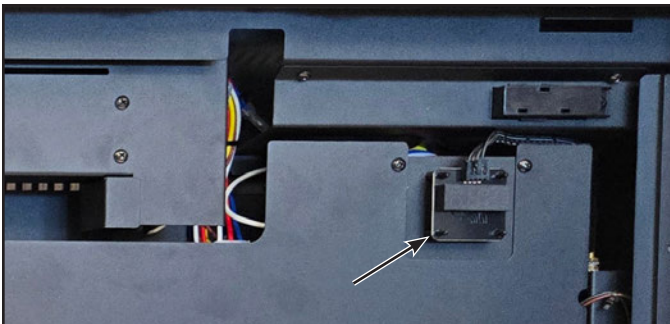

Figure 13 Setting Indicator Board
3. Locate the setting indicator in the upper right side of the appliance. See Figure 13.